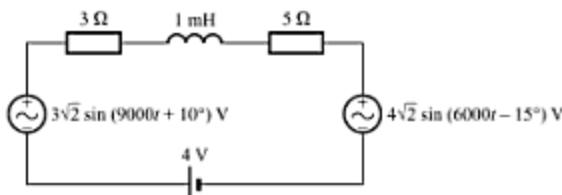

Fig. C-64
- C-95. Use superposition theorem to find the average power absorbed by the 5- Ω resistor in the circuit shown in Fig. C-64.